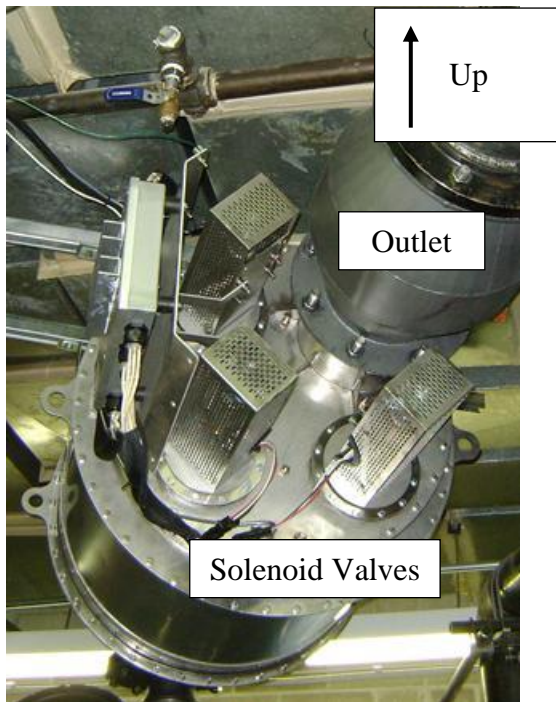

Figure 3: End Out Orientation
- a. For end out designs, two of the three solenoid valves must be positioned closest to the ground with the outlet flange located higher than the valves, shown in Figure 3.